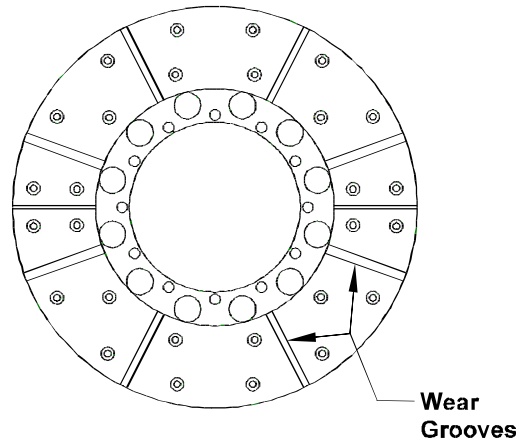
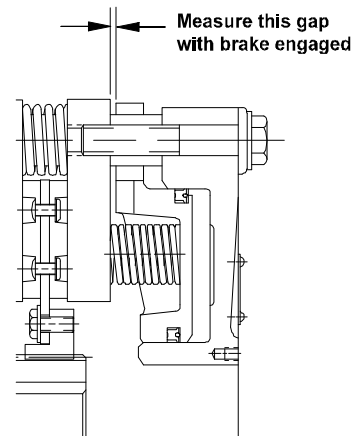

Fig. 5
Fig.6
- 4.2.1 On single and dual disc units, the friction material must be replaced when worn to the bottom of the groove on the friction lining. See Figure 5. On dual disc brakes, however, a wear adjustment is required when the friction material is approximately one-half worn. To determine when adjustment is required, measure the gap between the spring housing (16) and the pressure plate (14) with the brake engaged, as shown on Figure 6. When this dimension is X (from Table 7) or greater, AND none of the friction discs are worn to the bottom of the wear groove adjust per the following procedure.